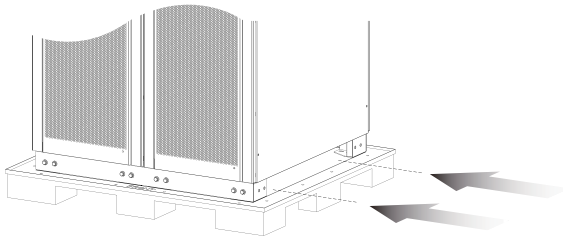

Figure 4-5: Fork into Position
5. Insert the fork into the bottom of cabinet from the side (Figure 4-5).